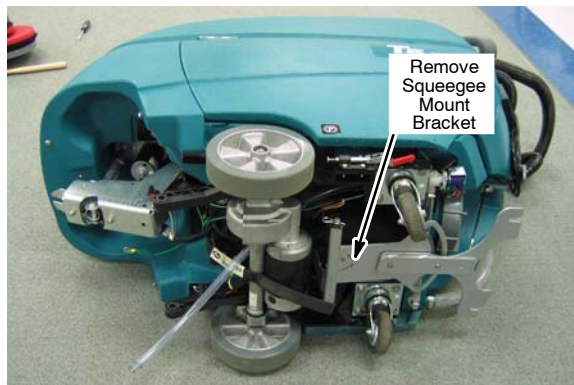

Fig. 19
- On a level non-marring surface carefully lay the machine on its right side and remove the squeegee mount bracket (Figure 19).